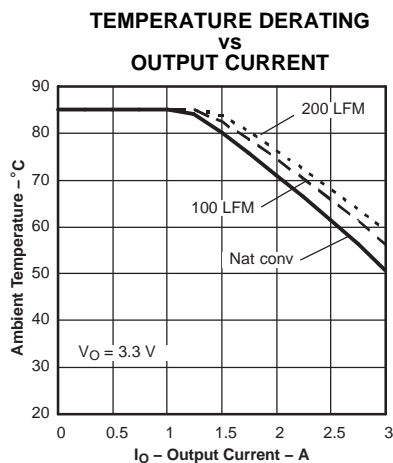

Figure 9.
- (2) The temperature derating curves represent the conditions at which internal components are at or below the manufacturer's maximum operating temperatures. Derating limits apply to modules soldered directly to a 100 mm x 100 mm, double-sided PCB with 2 oz. copper. For surface mount packages, multiple vias (plated through holes) are required to add thermal paths around the power pins. Please refer to the mechanical specification for more information. Applies to Figure 9 through Figure 11.